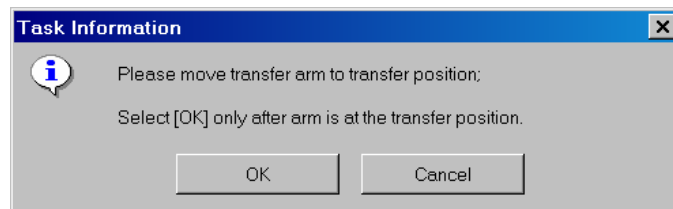

Figure 3-15. Task Information -1
9. After the following Task Information -1 appears (Figure 3-15), transfer the **Transfer Rod of VersaPrep** to transfer position.
6. Drag the platen on the **Stage** to the **Prep** on **Chamber Viewer**. The **Stage** moves to the transfer position, and open **V110** valve. After Task Information-1 (Figure 3-15) appears, transfer the **VersaPrep Transfer Rod** to transfer position.